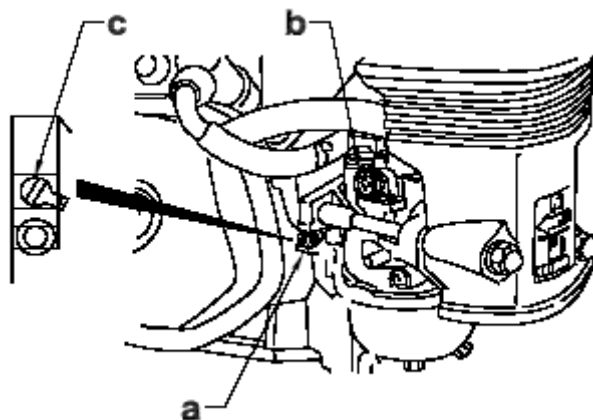

Fig.9
5.9 Carburetor Adjustment(Fig.9)